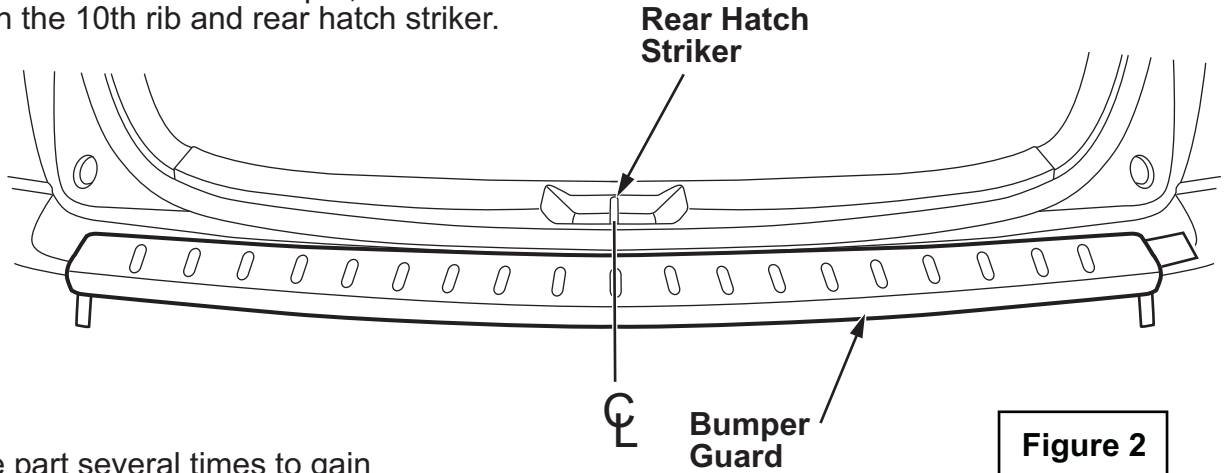

Figure 2
A. Align the tenth (10) rib of the bumper protector with rear hatch striker. [Figure 2]